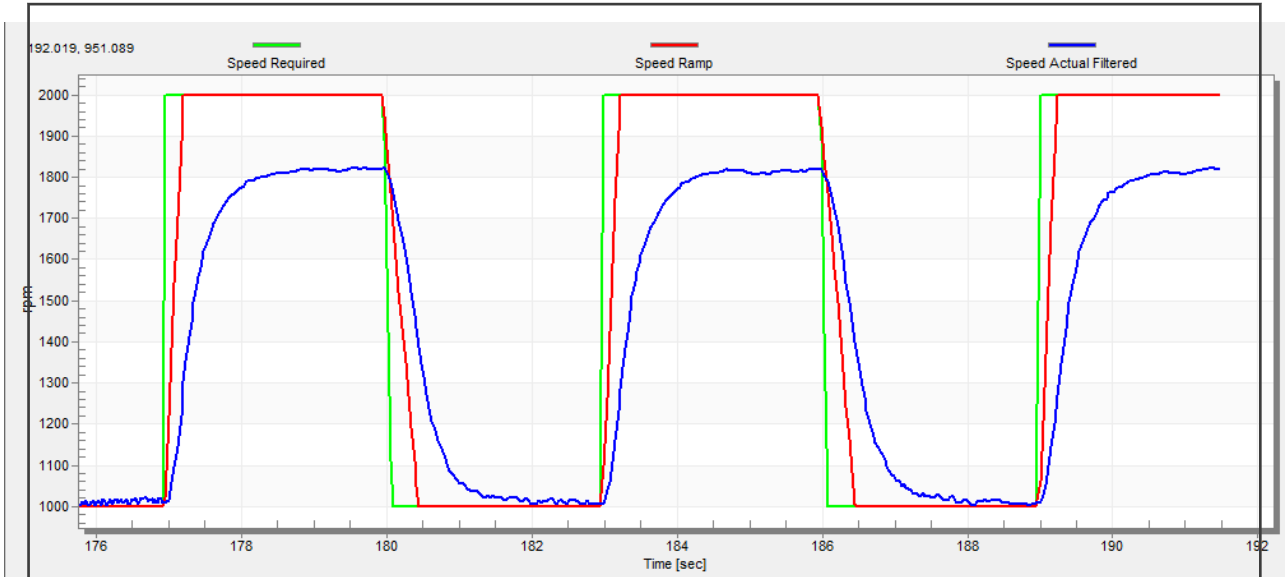

Figure 28. Speed Controller Response— $SL\_K_i$  value is low, Speed Ramp is not achieved
The motor speed control loop is a first-order function with a mechanical time constant that depends on the motor inertia and friction. Obtaining these mechanical constants using the PMSM electrical and mechanical parameter measurement process is described in Section 5.1.6, “Mechanical parameters measurement” and Section 5.1.7, “PMSM electrical and mechanical parameters measurement process”. If these mechanical constants are available, the PI controller constants can be tuned using the loop bandwidth and attenuation. Otherwise, the manual tuning of the P and the I portions of the speed controllers is available to obtain the required speed response (see the example response in Figure 28). There are dozens of approaches available to tune the PI controller constants. The following steps provide one of these examples to set and tune the speed PI controller for a PM synchronous motor:
- The “SL\_Ki” value is low, and the “Speed Actual Filtered” does not achieve the “Speed Ramp” (see Figure 28).